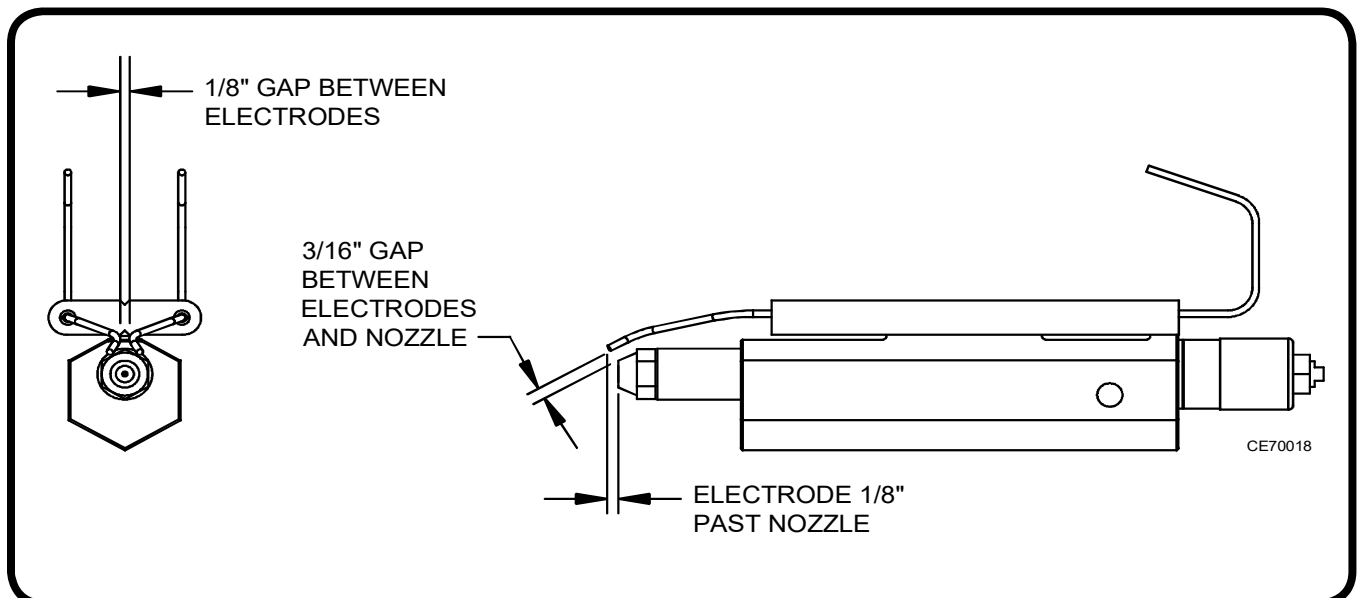

Figure 5: Nozzle and Electrode Settings
**NOTICE:** The nozzle, electrode, and retention head may need adjustment after shipping and installation. The nozzle should remain centered in the retention head. Refer to Figure 5 for proper dimensions.
- (1) Remove the two serrated flange nuts from the front door.
- (2) Slide the blast tube of the burner through the throat of the front door.
- (3) Fasten the burner to the front door by tightening the two serrated flange nuts.